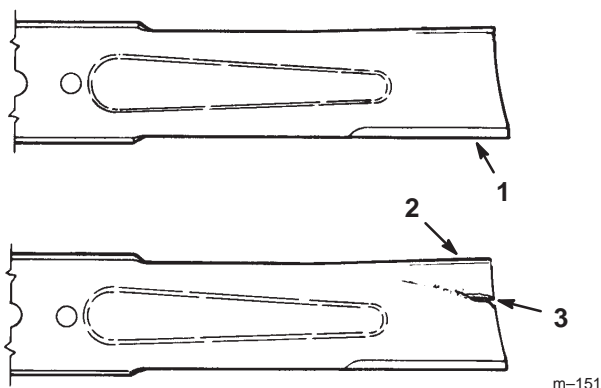

Figure 30
2. Inspect the cutting edges (Fig. 30). If the edges are not sharp or have nicks, remove the blade(s) and sharpen them; refer to Sharpening the Blade(s), page 28.
3. Inspect the blade(s), especially the curved area (Fig. 30). If you notice any damage, wear, or a slot forming in this area (Fig. 30), immediately install a new blade.